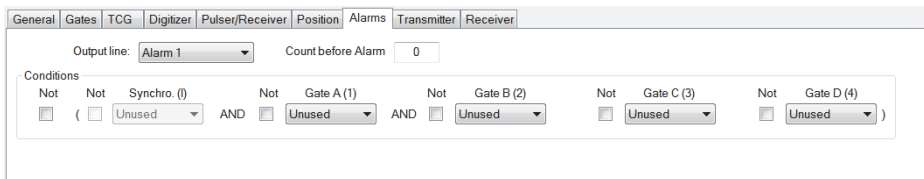

Figure 4-54 Alarms tab
2. Click the **Alarms** tab of the **UT Settings** dialog box, configure the alarms that will trigger A-scans to be recorded; four different alarms can be configured, all of which will have the same effect. See Figure 4-54 on page 147.